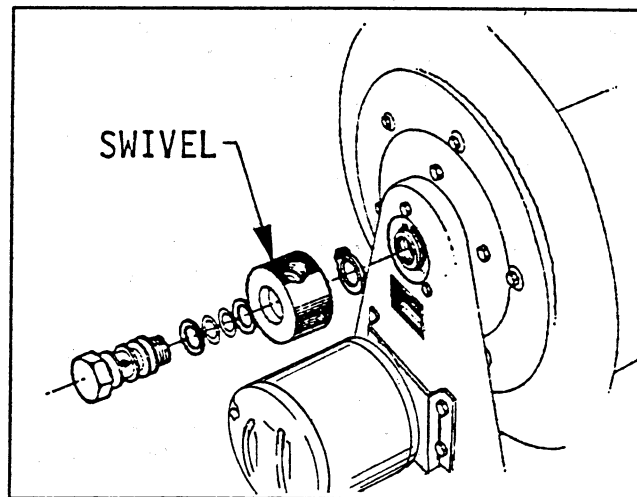

FIG. 3
- To replace the "O" rings, (4-each) disassemble the Swivel by removing the clip ring from the Swivel Shaft. See FIG. 3.